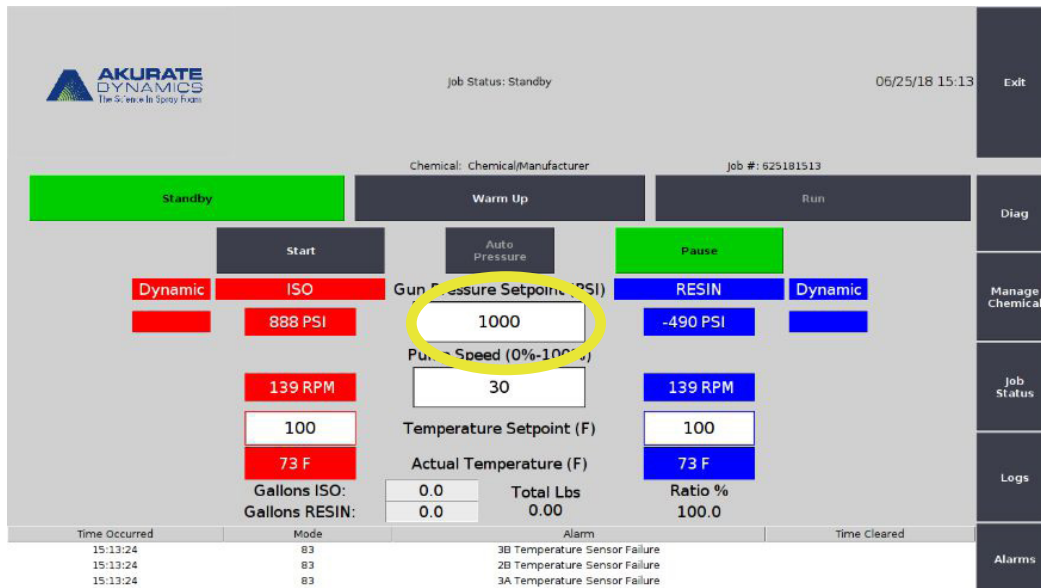

Figure 11
1. Set pressure point to 300 PSI (Figure 11)